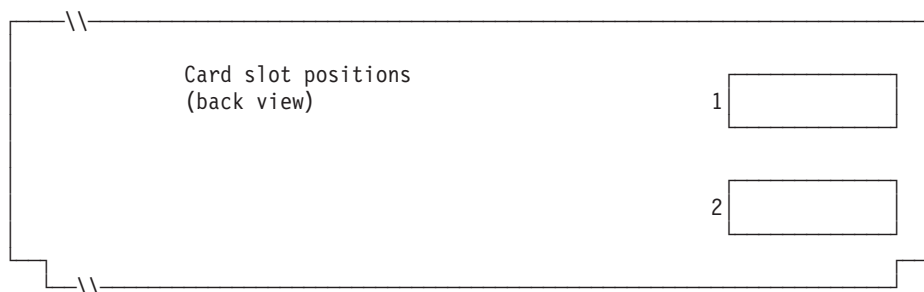

Figure 132. Rear of 4694-3x7 Controller/Terminal
4. Mark an X on Figure 132 in each card slot that has a Dual Asynchronous Adapter card installed **for use by terminal applications**. Do not mark an X if the card is to be used by applications other than terminal applications use .